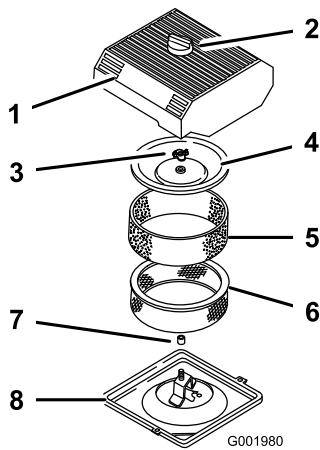

Figure 34
3. Clean around the air cleaner to prevent dirt from getting into the engine and causing damage (Figure 34).
4. Loosen the knob on the air-cleaner cover and remove the cover (Figure 34).
5. Carefully slide the foam element off the paper element (Figure 34).
6. Unscrew the cover nut and remove the cover and paper element (Figure 34).
1. Carefully slide the foam element onto the paper air-cleaner element (Figure 34).
3. Install the cover nut finger-tight against the cover (Figure 34).
4. Install the air-cleaner cover and knob (Figure 34).